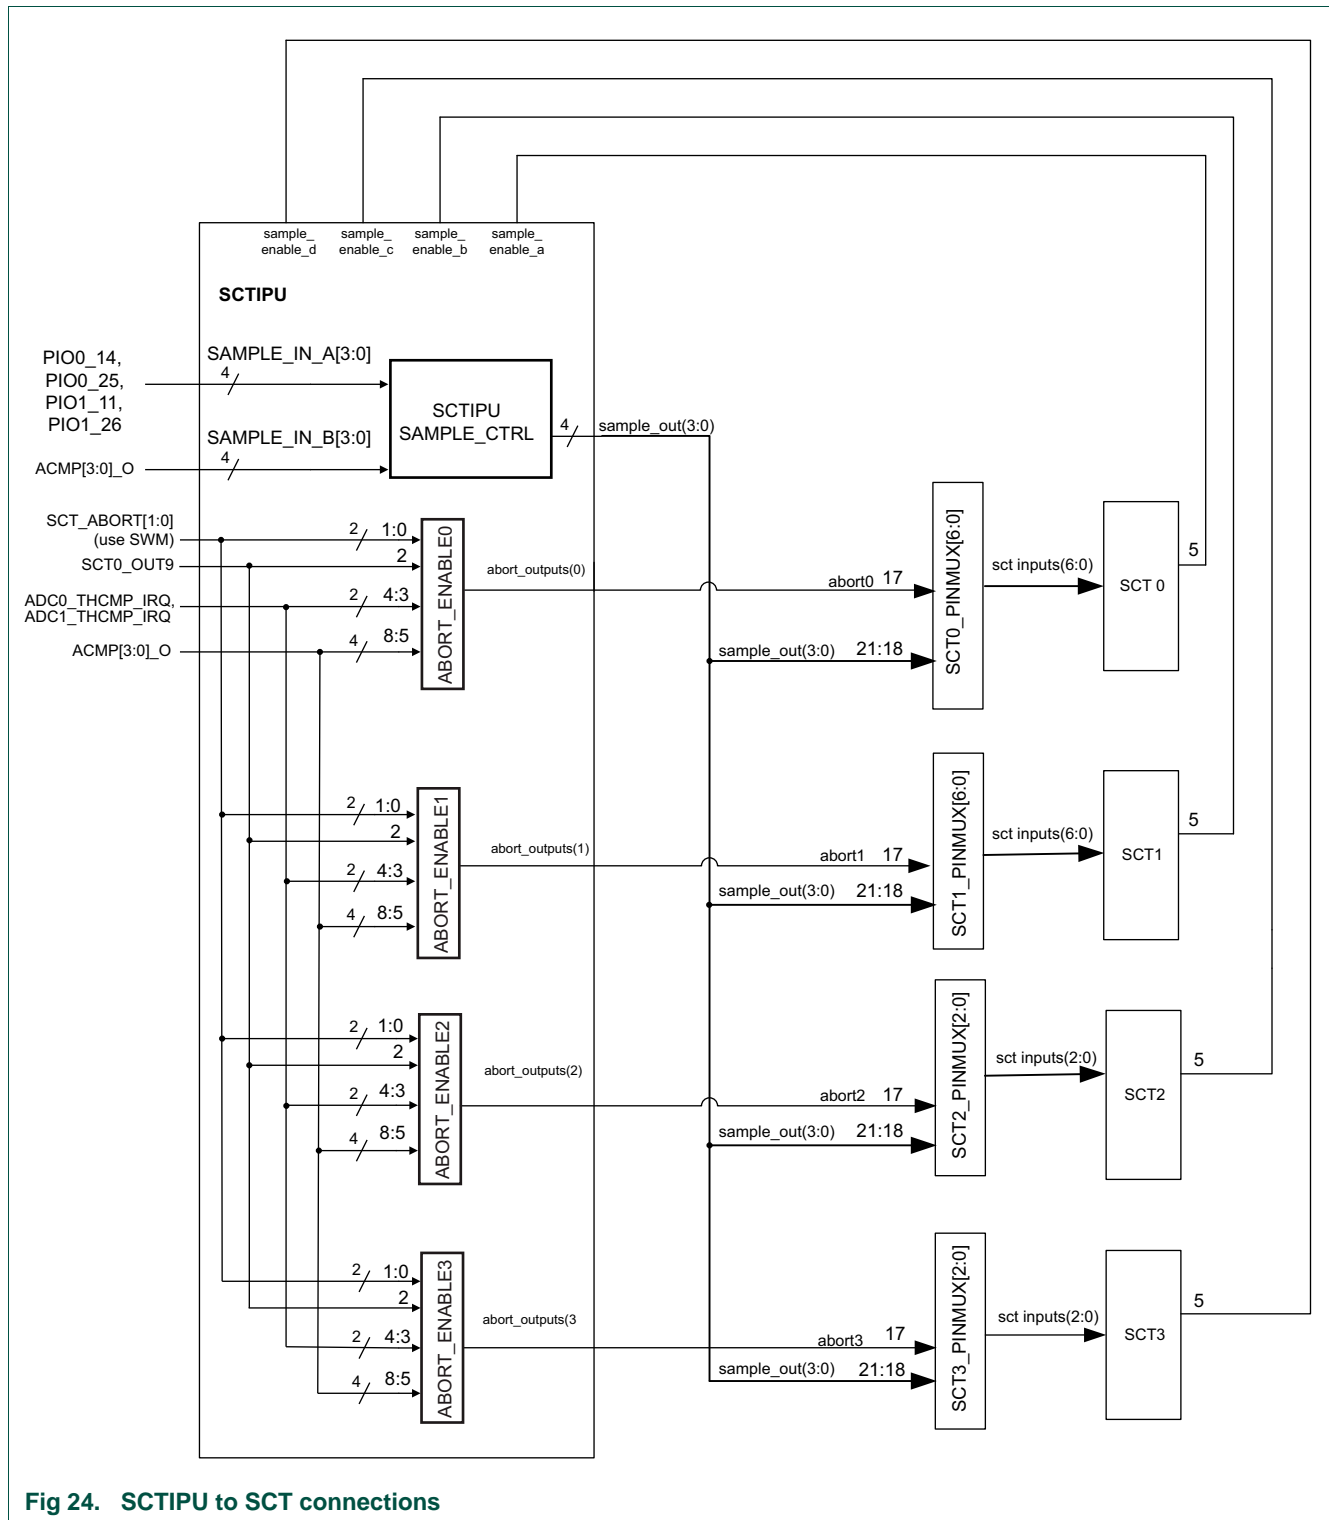

Fig 24. SCTIPU to SCT connections
- Select the SCTIPU sample inputs from external pins and the comparator outputs. See Table 193 and Figure 24.